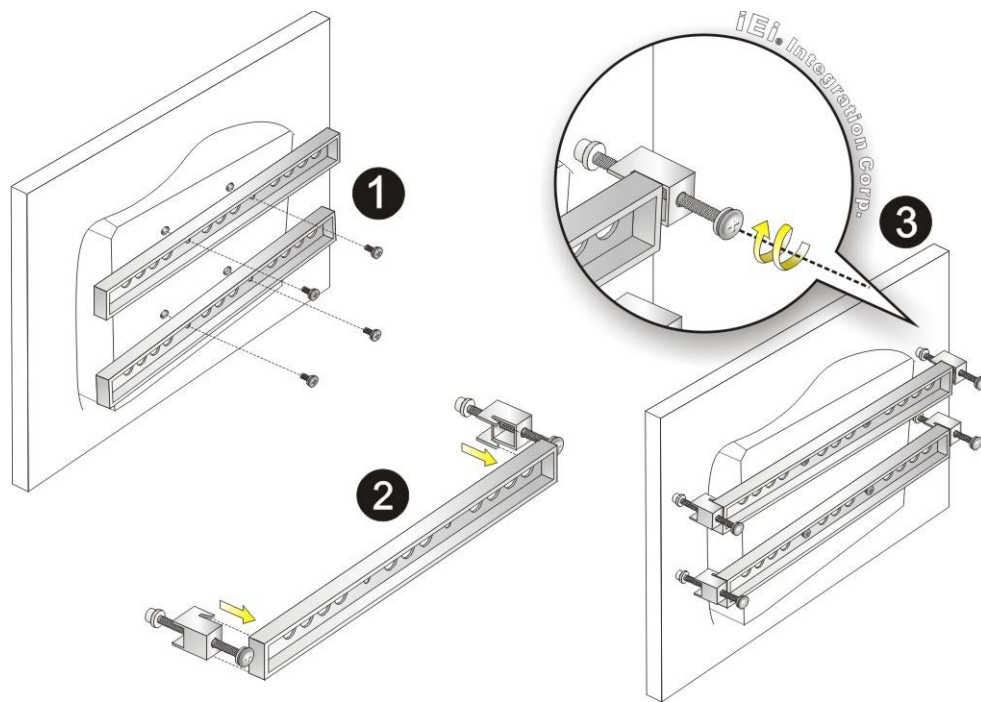

Figure 3-15: Rack Mounting Kit Installation
- Step 3:** Secure the two panel mounting brackets to the rear of the panel PC by inserting the four retention screws into the VESA mounting holes (**Figure 3-15 ①**).
- Step 4:** Insert the panel mounting clamps into the pre-formed holes along the two edges of the panel mounting brackets (**Figure 3-15 ②**). There are a total of 4 panel mounting clamps for AFL3-W07A-BT-N1.
- Step 5:** Tighten the screws that pass through the panel mounting clamps until the plastic caps at the front of all the screws are firmly secured to the panel (**Figure 3-15 ③**).